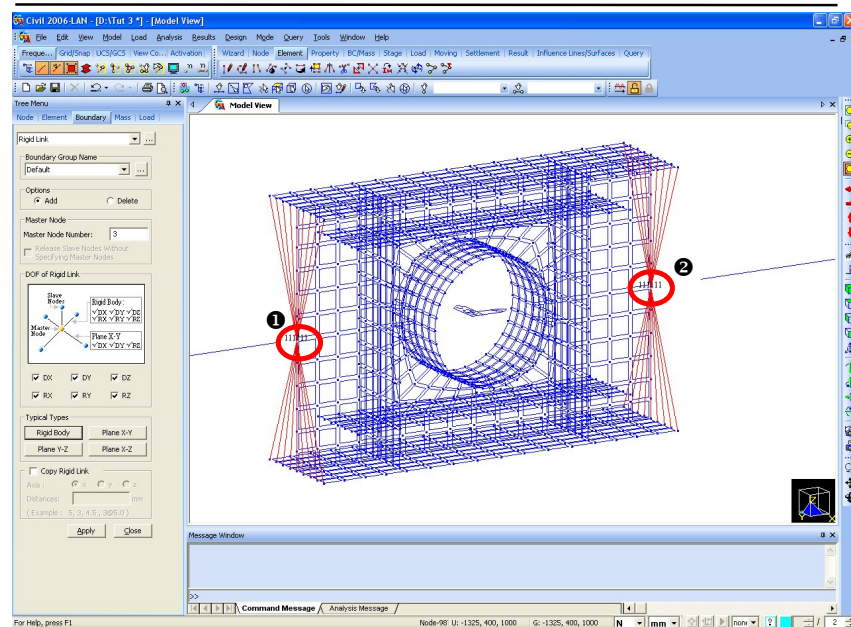

Figure 3.16 Rigid Link Setup
3. Click the **Master Node Number** field once and click the node (Fig. 3.16–①) to which the left beam extends in the Model window to enter “183” automatically.
10. Repeat the steps 3~9 to specify the rigid body connection condition of the master node/slave nodes at the right end of the detail model (Fig. 3.16–②).